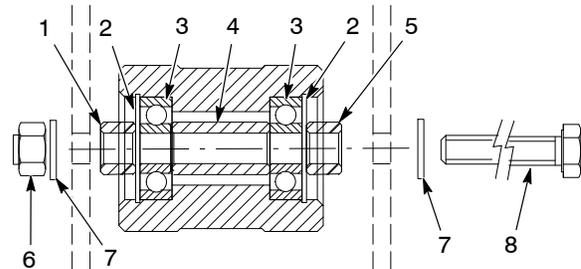

Figure 11 Roller Assembly
8. See Figure 11. Remove the nuts and washers and roller bolts, then remove the roller assembly from the carriage.